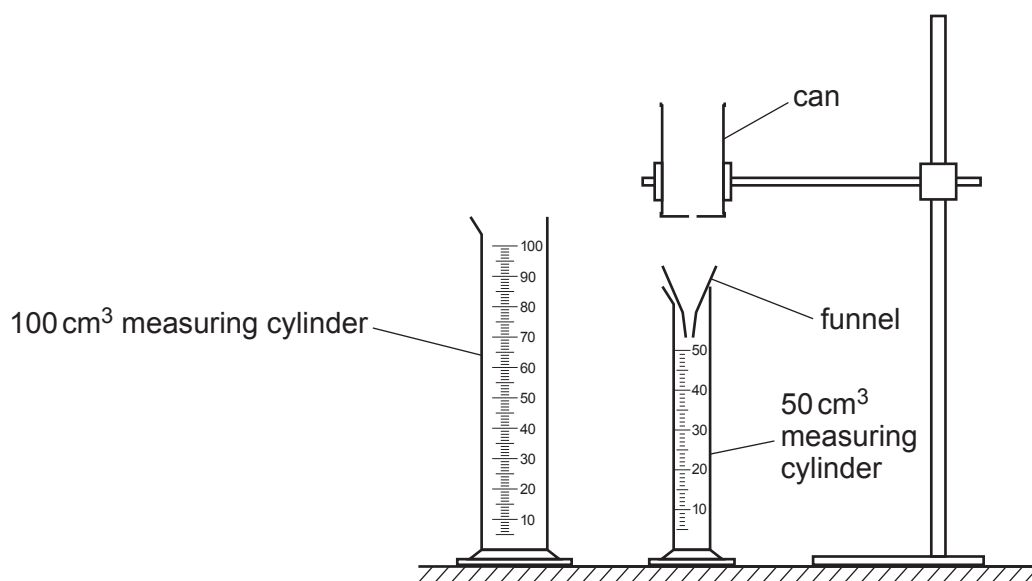

Fig. 3.1
2. The apparatus should be set up ready for each candidate as shown in Fig. 3.1, with the 100 cm³ measuring cylinder and the beaker labelled 'supply of water' placed at one side of the apparatus.
The supervisor should ensure that the apparatus is set up for each candidate as shown in Fig. 3.1, with the 100 cm³ measuring cylinder and beaker labelled 'supply of water' placed at one side of the apparatus. The measuring cylinders should be empty, and the water in the beaker labelled 'supply of water' topped up to 200 cm³.